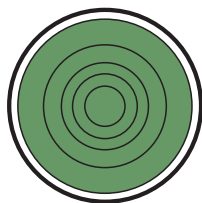

Figure 146. Main Circuit Breaker ON Lamp (ON/GREEN)
9. Verify that the **Main Circuit Breaker ON** lamp (Figure 146) is illuminated (**GREEN**). This indicates that the **circuit breaker contacts are closed** and power has been sent to the load.